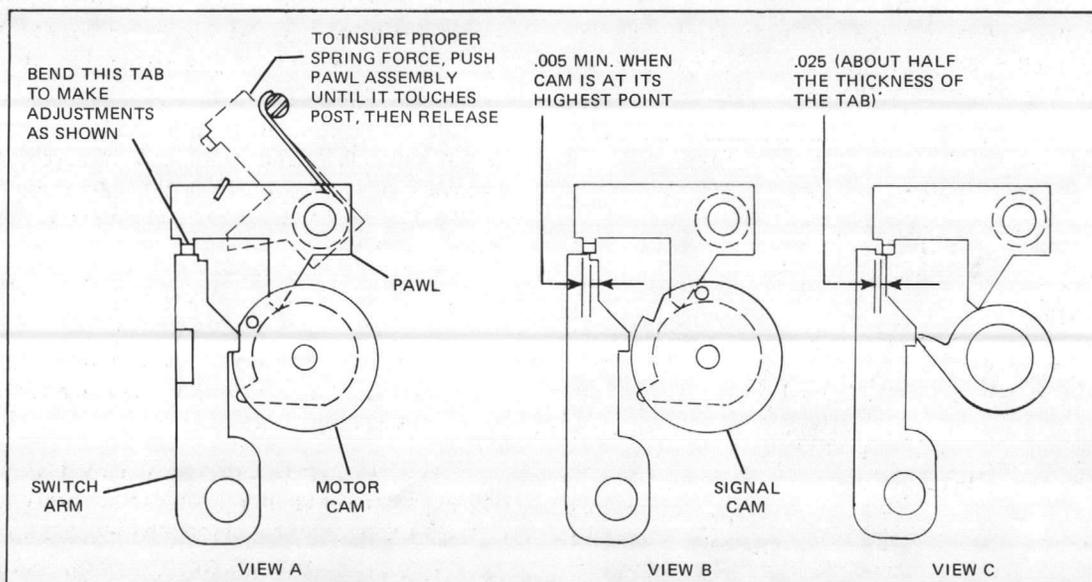

Figure 5-2. AR Pawl Adjustment
1. Set the pawl spring tension as shown in Figure 5-2, View A.
2. Bend the pawl tab to obtain latch clearance as shown in Figure 5-2, Views B and C.
4. Rotate the red pointer (and cam) and observe latching of the switch arm by the pawl. As the high point of the signal cam passes the switch arm, the pawl must engage the notch of the switch arm and latch the arm. (See Figure 5-2, View B.) The switch arm must remain latched when the high point of signal cam is past the switch arm.